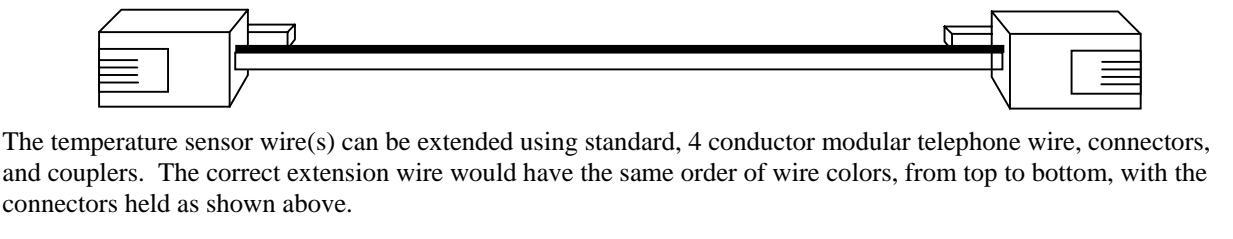

Fig. 4
*If any of the sensor leads are too short, they can be extended by using HeatManager™ extension cables, or make your own using standard 'modular telephone' wire and connectors (see Fig. 4).*